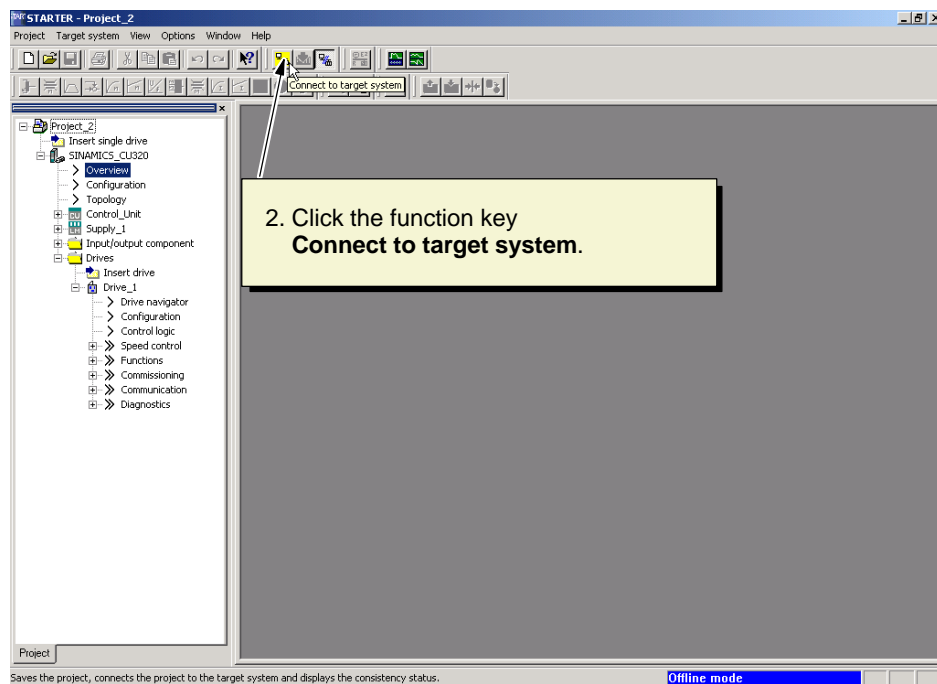

Fig. 4-1 Project navigator with SINAMICS_CU320
2. To use the "control panel" function, you have to switch to ONLINE mode. To switch to ONLINE mode, click the function key **Connect to target system** (as shown in Fig. 4-1).